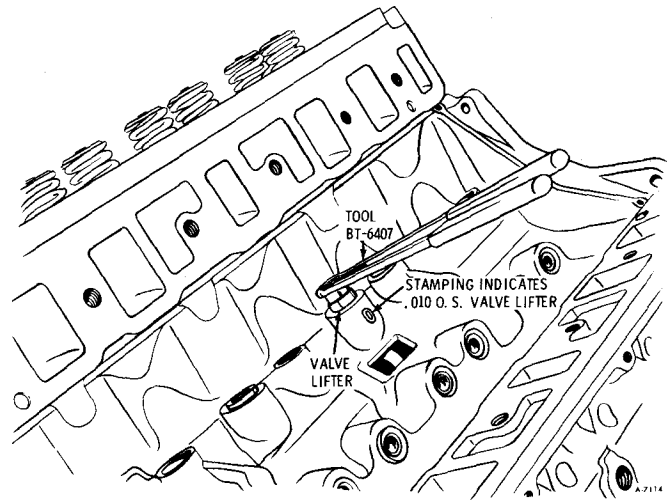

Figure 25—Removing Valve Lifter
#### REMOVAL (FIGURE 25)
1. Assemble ball check, spring and retainer into plunger (figure 25). Make sure retainer flange is pressed tight against bottom of recess in plunger.